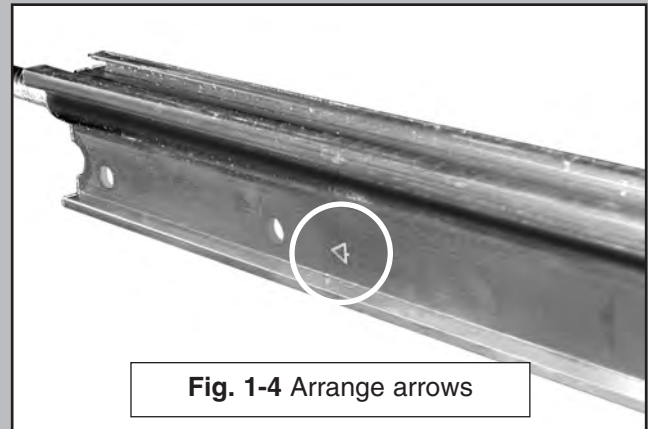

Fig. 1-4 Arrange arrows
- Insure arrow on boom points away from power head. (Fig 1-4 on page 9.)
4. Arrange arrows on boom sections (Fig. 1-4).